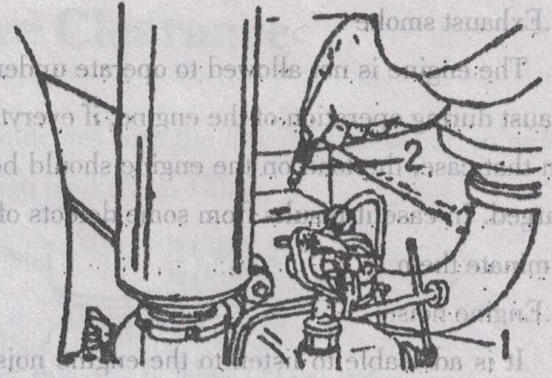

Fig.9 Inserting ignited paper roll to assist starting
6. In cold weather, to assist starting, a soft paper roll may be inserted into the centerhole of the starting-aid plug screwed off from the cylinder head. After the paper roll has been ignited, the plug is then screwed back on the cylinder head (Fig. 9).